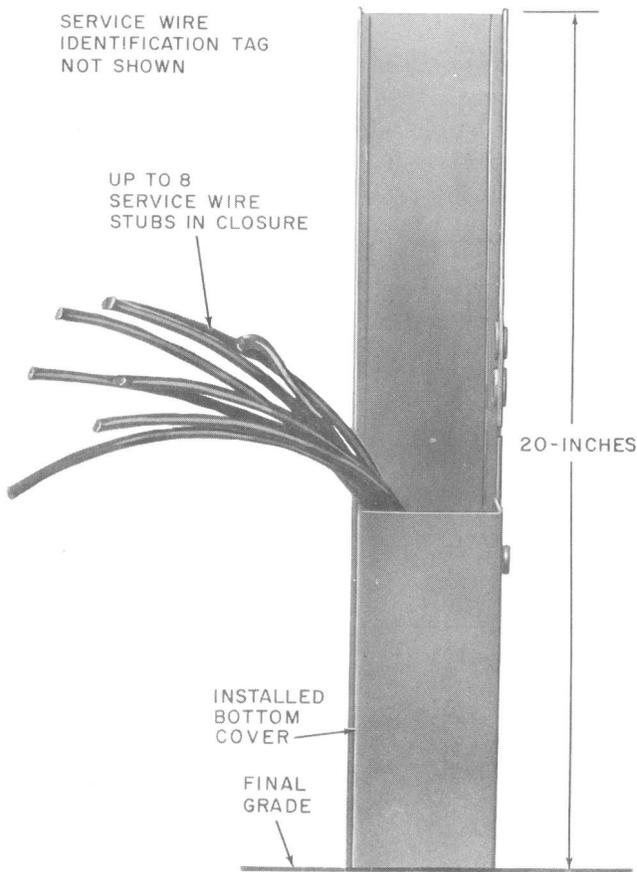

Fig. 4—B Wire Storage Closure With Service Wire Stubs Installed
3.02 Install closure as follows (Fig. 4 and 5):